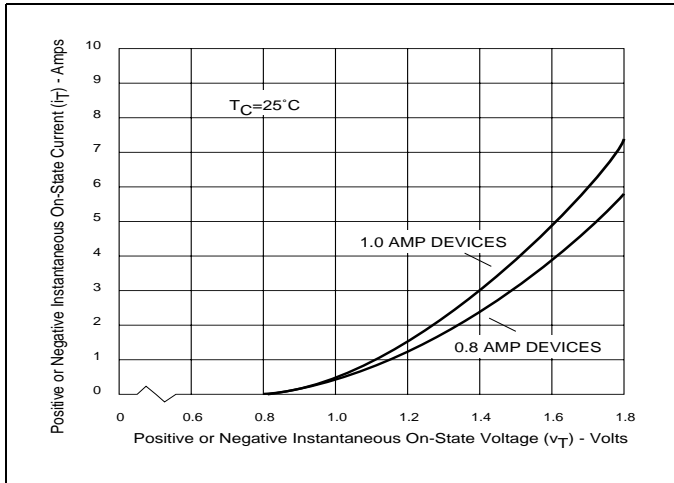

Figure 2.8 On-State Current vs On-State Voltage (Typical) (0.8 and 1.0 Amp)
- See Figures 2.8 through 2.10 for i_T vs v_T .